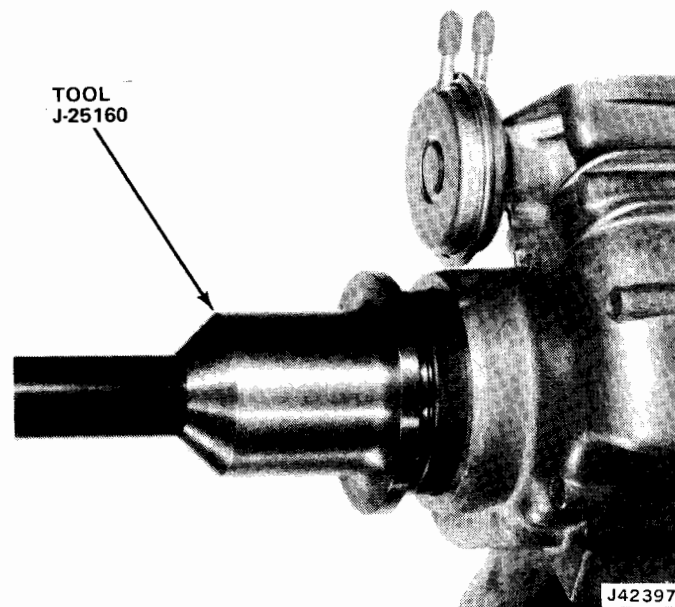

Fig. 8-46 Installing Rear Output Shaft Oil Seal
(12) Using Seal Driver J-25160, install rear output shaft oil seal (fig. 8-46).
(13) Install rear yoke and nut. Tighten nut to 120 foot-pounds torque.